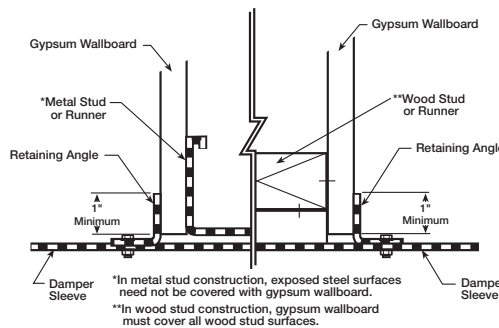

Figure 4 — Fasten Gypsum Wall Board
3. Fasten gypsum wall board 12" on center to all stud and runner flanges surrounding opening. See Figure 4.